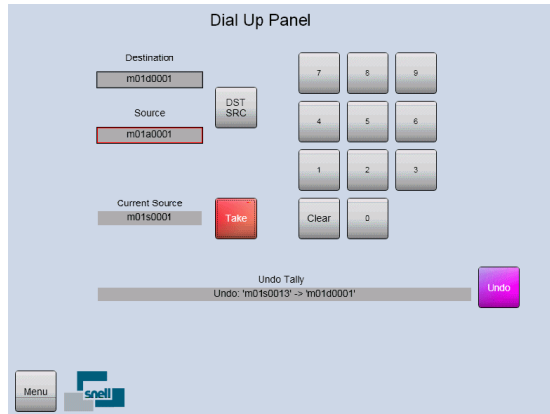

Fig 33.Dial Up Panel
7. Route input 1 to output 2 using the Door PC Dial-up Routing Panel (Fig 33.) or other control mechanism.